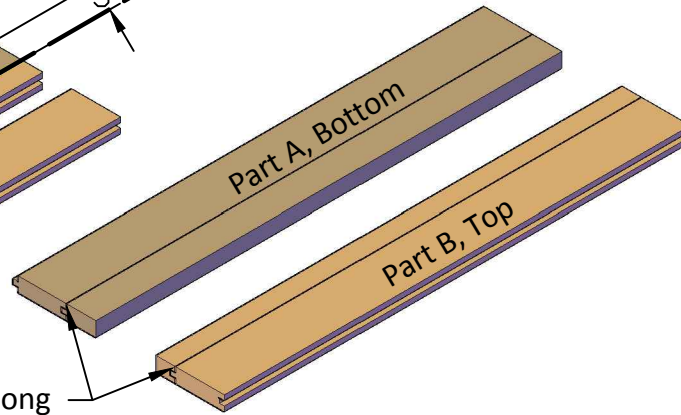

Figure 1B
- Using strong wood glue (e.g., "Liquid Nails"), attach the tongue half of each ripped board to the bottom side of a 2x6 T&G board of comparable length (Fig. 1B, Sheet 8). This assembly produces the four bottom boards (Part A).